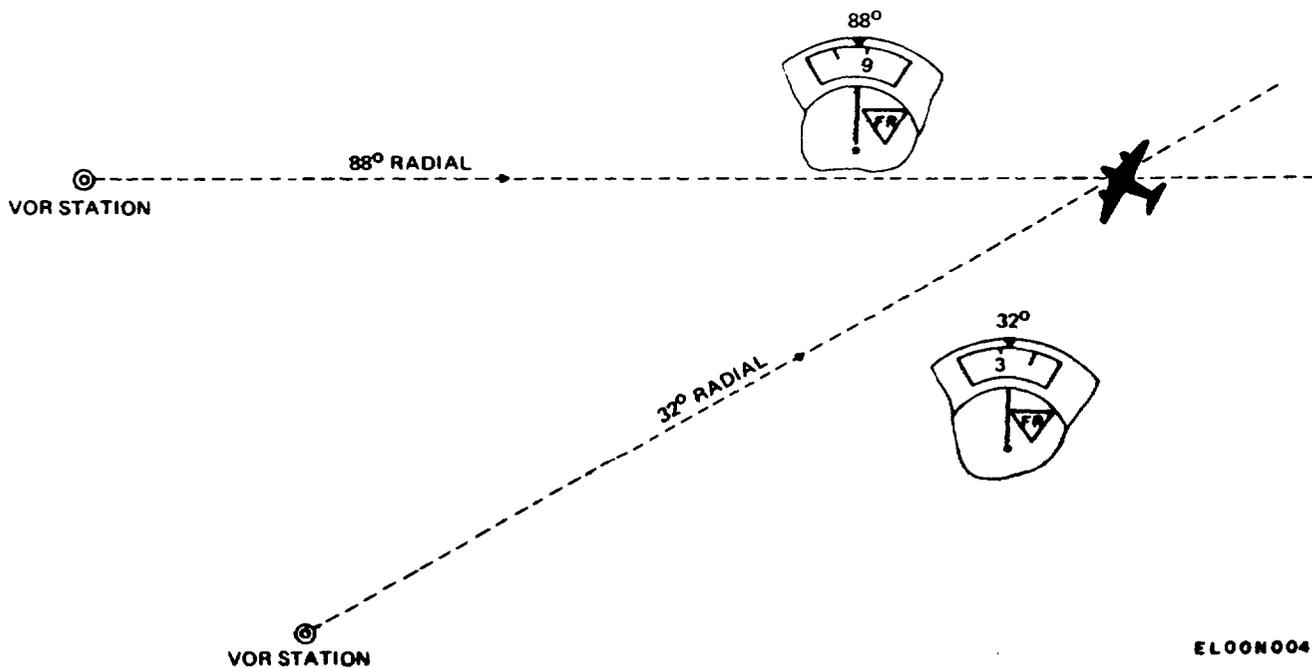
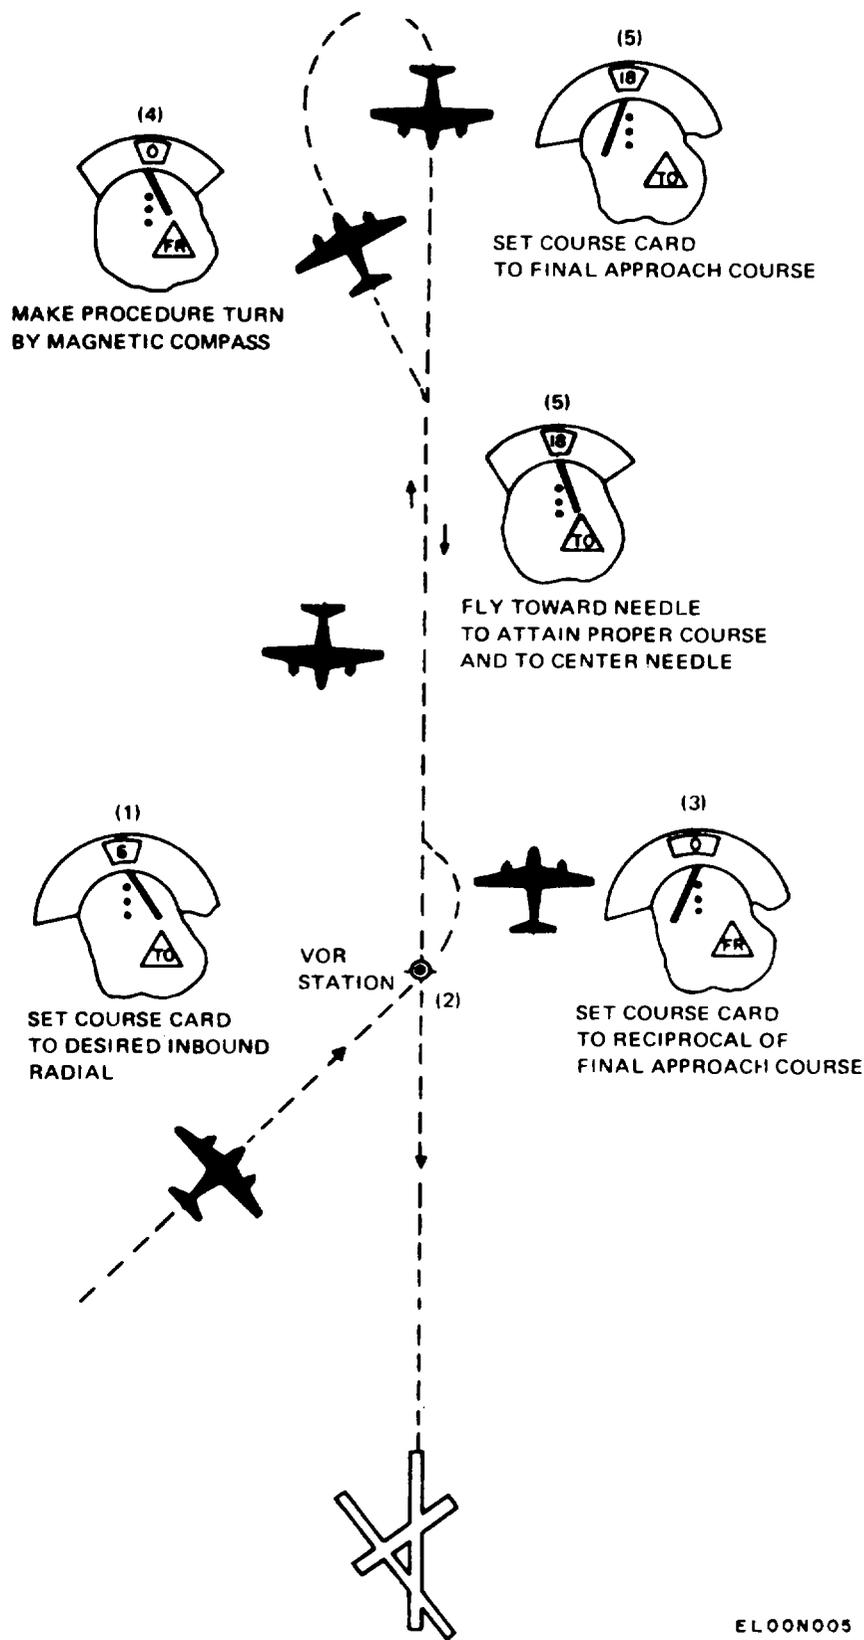

Figure 2-2. Position Finding With VOR.
Figure 2-3. VOR Approach.
(2) Fly in the general direction toward the selected radial; then turn in the direction in which the VOR/localizer needle deviates. As the needle centers, turn to the heading of the selected inbound radial and keep the needle centered.
d. *Position Finding With VOR.* When two VOR stations can be received, the VOR system provides a method of position finding (fig. 2-2). This method is accurate when the two stations are at least 30° apart (with respect to the aircraft) and not more than 150° apart (with respect to the aircraft). At angles less than 30° and more than 150°, the accuracy degrades until
- (1) Tune the navigation receiver to one of the stations.
- (2) Rotate the course card until the VOR/localizer needle is centered and the to/from indicator FR. Read the bearing beneath the course index, which in the figure 2-2 example is 88°. This is the bearing from the station to the aircraft.
- (3) Locate the station on a map and draw a line from the station in the direction determined in (2) above.
- (4) Repeat the procedures given in (1), (2), and (3) above on a second VOR station (preferably one which is separated approximately 90° from the first station). The bearing for the second VOR station read under the course index is 32°.
- (5) The intersection of the two lines is the aircraft position.
e. *VOR Approach.* The VOR approach is executed when the desired landing runway does not have ILS facilities but the VOR station is in line with the desired runway (fig. 2-3). Proceed as follows
- (1) As the aircraft comes within range of the VOR station, set the course card to the specified radial or a convenient inbound radial (80° radial shown) and tune the navigation receiver to the VOR station.
- (2) Fly toward the desired radial to center the VOR/localizer needle.
- (3) When the VOR station is reached, set the course card to the reciprocal (0° radial) of the final approach course. Fly toward the reciprocal of the final approach course to center the VOR/localizer needle.